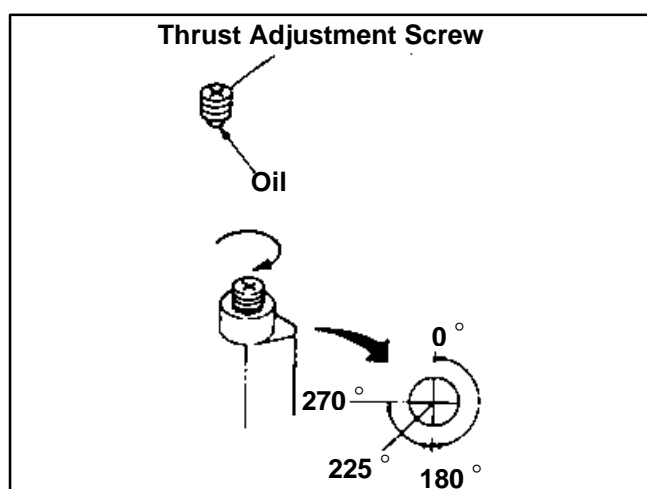

Figure 1-16-2
5. Turn the Thrust Adjustment Screw an another angle of 270 degrees from 180 degrees (about 225 degrees) clockwise as shown in Figure 1-16-2.